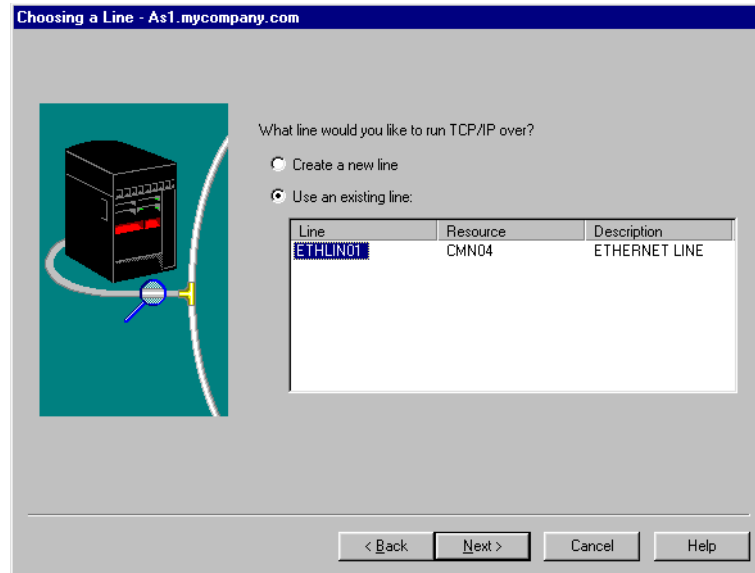

Figure 312. Choosing a Line
4. The New TCP/IP Interface Resource window shows all the hardware on your system that matches your type selection. In our example, we have one Ethernet adapter (CMN04). You should use the buttons on the window to determine the location of the adapter. You can also use the buttons to list communication lines that are currently defined. Right-click the hardware resource you want to configure. Click **Next**. The Choosing a Line window appears (Figure 312) if a line is already defined for the hardware resource you selected. Go to the next step. The Creating a New Line Description window